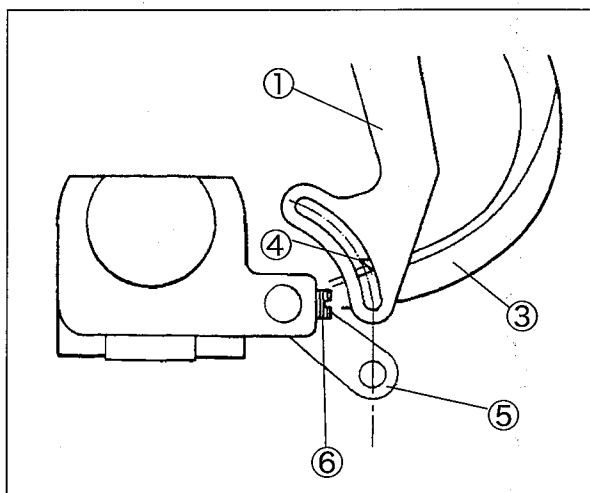

Fig. 47
- (1) Loosen the screw ⑥ of the top cover thread eyelet ⑤. (Fig. 47)
- (3) Set the eye of the top cover thread eyelet ⑤ along the extending line from the slot of the top cover thread guide ①. (Fig. 47)
- (4) Tighten the screw ⑥ securely. (Fig. 47)